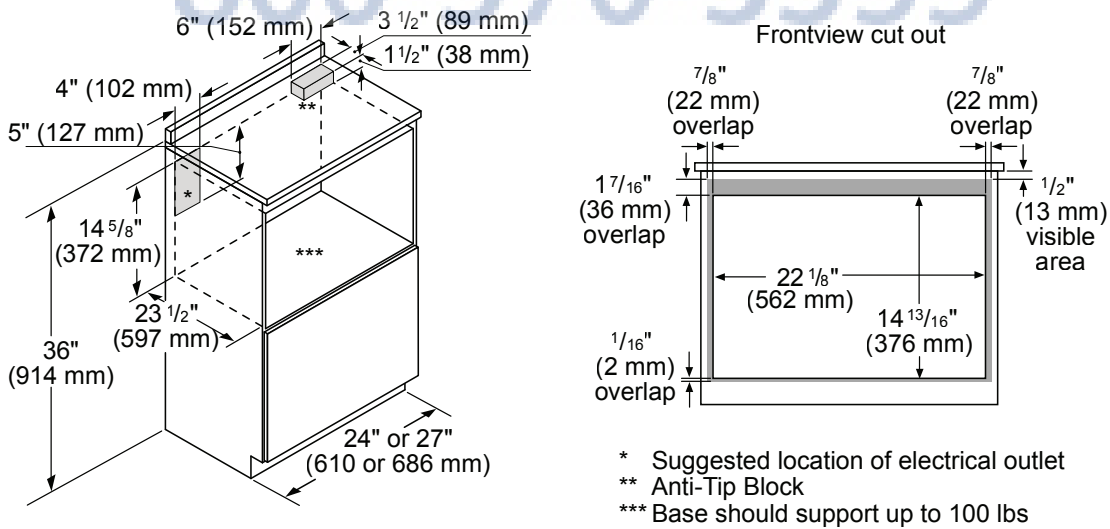
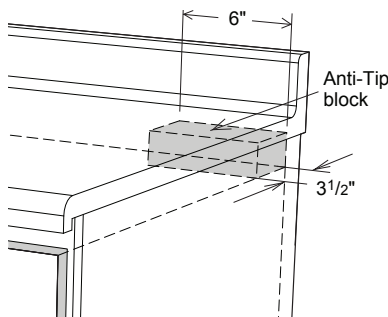
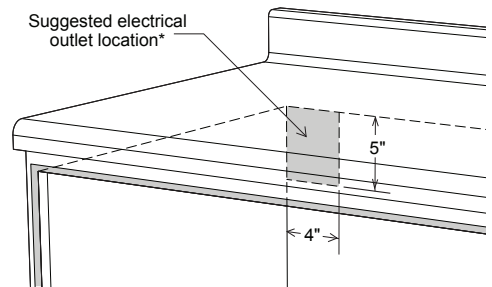

Figure 3
Figure 5
Figure 6
- For safety considerations, do not install Drawer Microwave in any combustible cabinetry which is not in accord with the stated clearances and dimensions in the "Drawer Microwave Measurements" section following. See Figure 3 (standard installation) or Figure 4 (flush installation).
- Dimensions that are shown in Figure 3 (standard installation) or Figure 4 (flush installation) must be used. Given dimensions provide minimum clearance. Locate electrical outlet in the shaded area in the upper left-hand corner of the cutout. See Figure 6.
The anti-tip block reduces the risk of drawer tipping when installed properly. Install the anti-tip block 14 ¹³/₁₆ inches above the installation opening floor (where the unit will sit) for a standard installation or 14 ⁵/₈ inches for a flush installation. See Figure 3 (standard installation) or Figure 4 (flush installation) and Figure 5. The 6-inch anti-tip block must be provided by the installer.